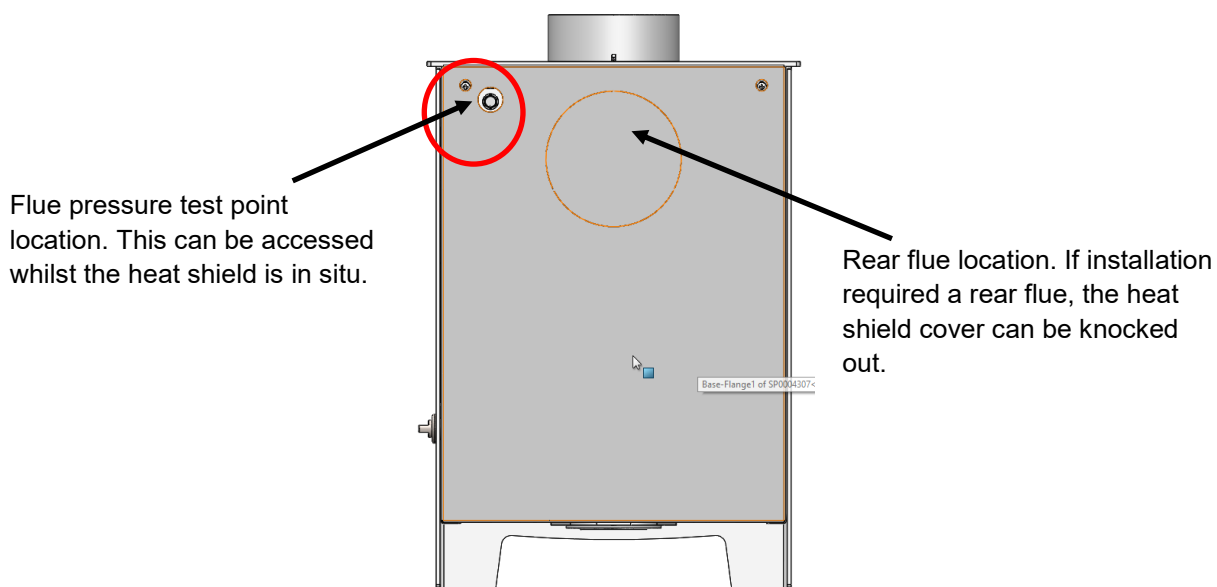

Figure 4. Rear Heat Shield Layout
Step 5 : With the heat shield fitted (See Fig. 4.), please observe the revised distance to combustible materials, as stated in the instruction guide (BK 738).